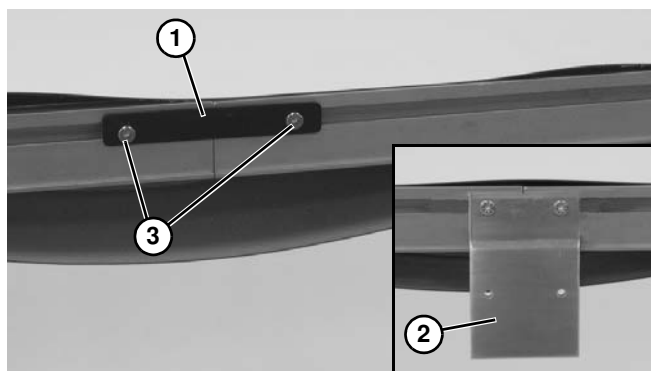

Figure 13
5. Join conveyor sections and install frame connector plates (**Figure 13, item 1**) or connector/mount brackets (**Figure 13, item 2**) and screws (**Figure 13, item 3**) on both sides as indicated. Tighten screws to 60 in-lb (7 Nm).